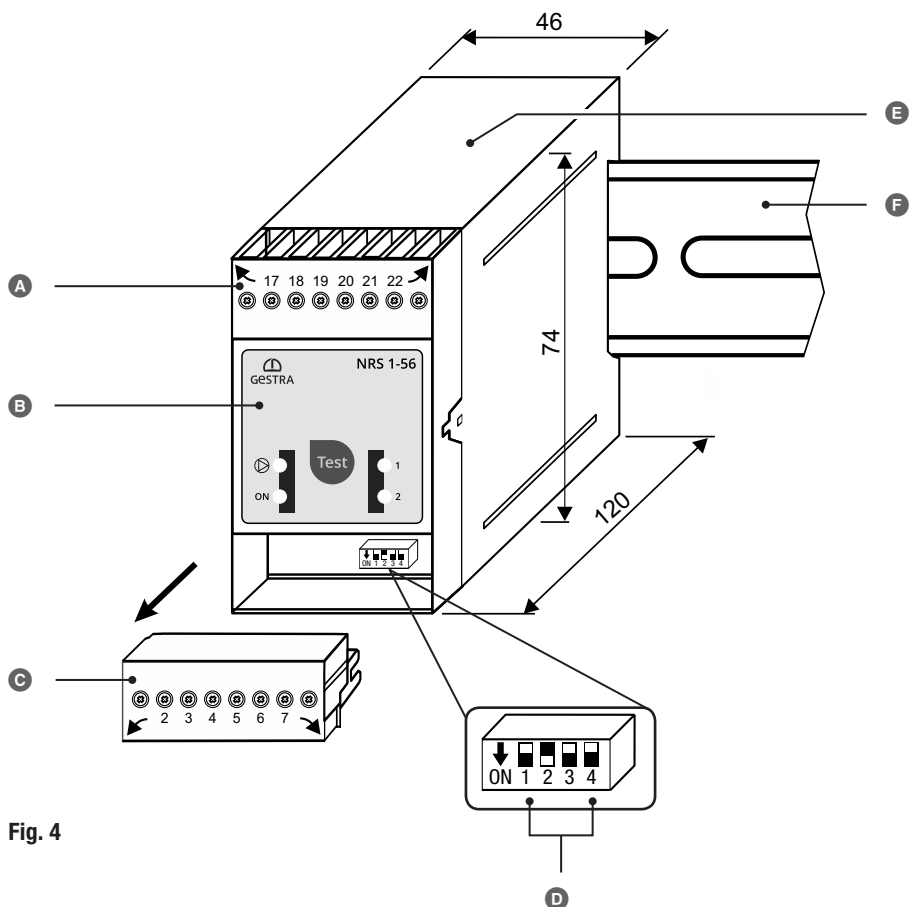

Fig. 4
The sensitivity and function are determined by the code switch  (see Fig. 4) . To make changes, you can access the code switch as follows:
3. Set code switch  (see Fig. 4) as desired.